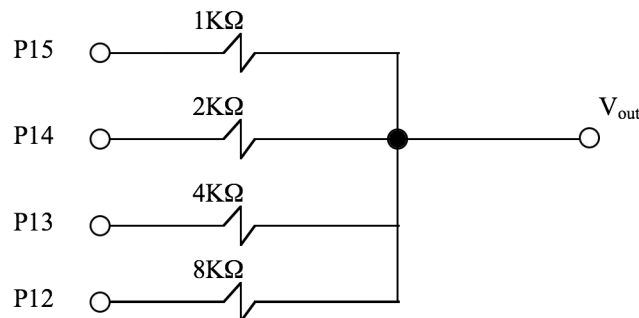

Figure 1: A Simple D/A Converter Circuit
Figure 1 shows the results of the circuit analysis we performed in class for the DAC circuit shown in Figure 1.
- 1) Choose two rows from Figure 1. Independently analyze the DAC circuit for these two cases to verify (or disprove) the results shown in the Figure 2.
- 2) Wire this simple D/A circuit, Figure 1, to I/O pins P12 through P15 on your breadboard. Use 1% resistors provided by your TA. We stock 1% resistors in 1K Ω , 2K Ω , and 4K Ω . Use two 4K Ω resistors to construct the 8K Ω resistor.